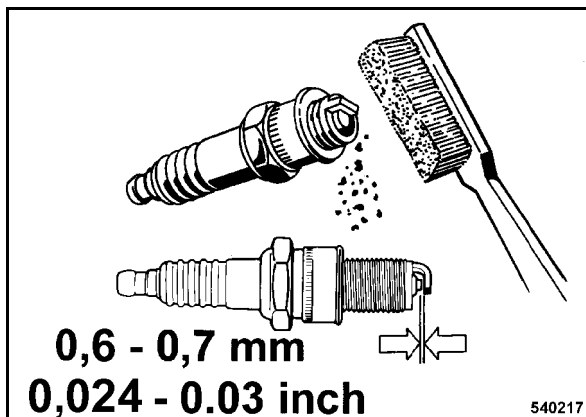

Fig. 39
- Unscrew the spark plug, check the spark plug visually and clean it if necessary (Fig. 39).